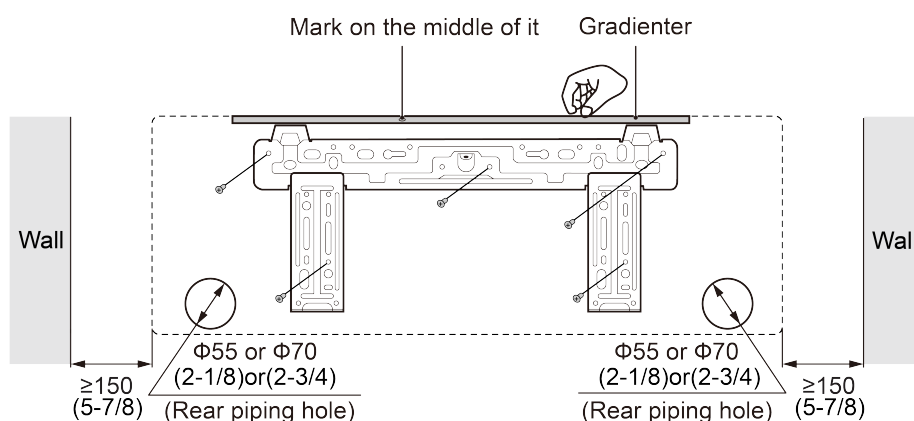

Fig. 4.2
- (1) Find the horizontal position by the spirit level; since the drainage pipe is on the left side, it is necessary to adjust the rear panel to make its left side a little bit lower.
- (2) Fix the rear panel on the wall by bolts.
- (3) After installing the rear panel, pull it by hands to check if it is secured enough. The hang panel should support the weight of an adult (60kg), and the weight shared by every bolt should be fairly even.
- (4) The diameter showed in Fig. 4.2 is 55mm(2-1/8inch) or 70mm(2-3/4inch).
- (1) Make the piping hole (55mm(2-1/8inch) or 70mm(2-3/4inch)) in the wall at a slight downward slant to the outdoor side. The center of the hole should be determined referring to Fig. 4.2.
- (2) Insert the piping-hole sleeve into the hole to prevent the connected piping and wiring from being damaged when passing through the hole.